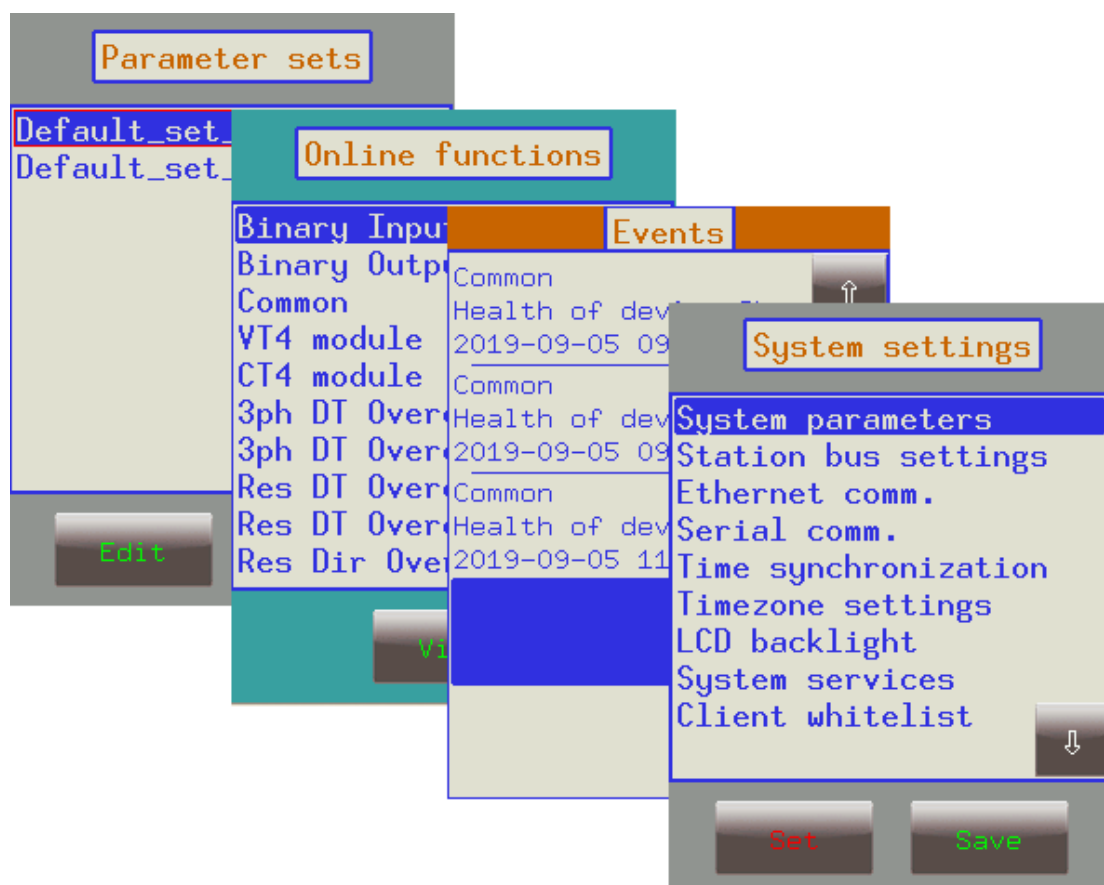

Figure 3-3 Default menu screens (excluding the main screen) displayed on the LCD
**Change screen button** - This hardware button changes the currently displayed screen for the subsequent one. The available screens and the order in which they appear by default are: the main screen, parameters, on-line, events, system settings and the custom screens which can be added by the user with the help of the EuroCAP software. The order can be changed in the LCD editor in the EuroCAP configuration tool. When pressing the “**Change screen button**” – as an example - the windows shown in Figure 3-3 can be seen and applied one-by-one, cyclically.